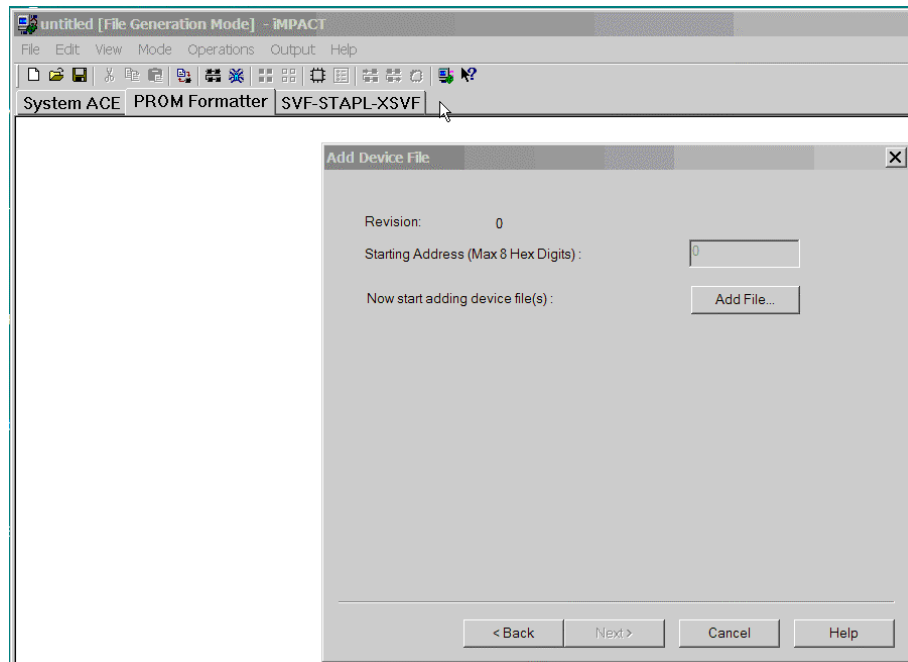

Figure B-5: Adding a Device File
7. Click on Next twice to bring up the Add Device File screen shown in Figure B-5.